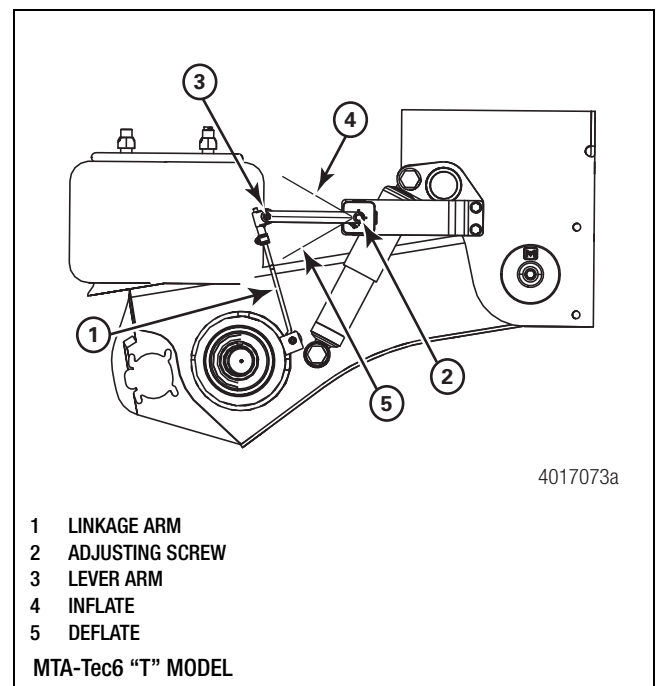
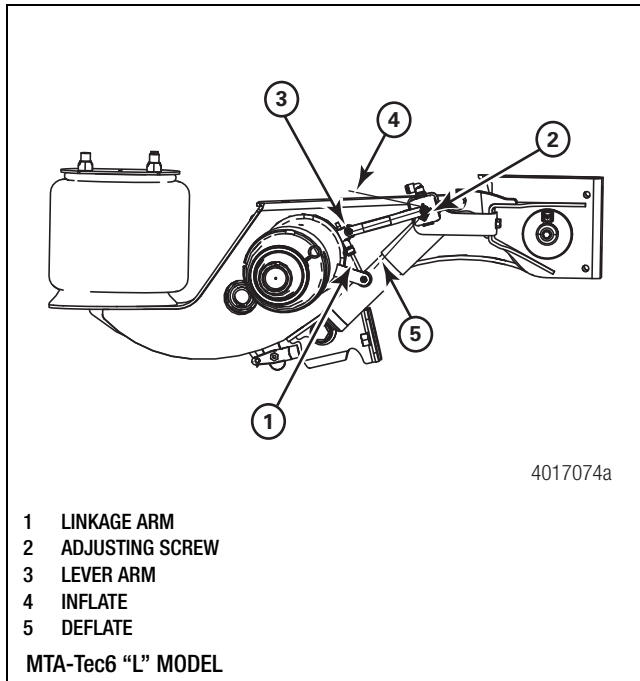

Figure 5.3
Figure 5.4
6. Disconnect the linkage arm at the upper linkage bolt. Replace a bent or damaged linkage. Figure 5.3 and Figure 5.4.
7. Verify that all personnel are clear of the air springs. Make sure the system is pressurized. Inflate or deflate the air springs by raising or lowering the ride height control valve (RHCV) lever arm. To inflate, hold the lever arm in the UP position for at least 15 seconds or until the suspension is at the correct ride height. Refer to Section 3. Figure 5.3.
8. When the suspension is at the correct ride height, set the RHCV lever arm in the neutral position. Figure 5.3.
3. Exhaust all air from the suspension system by disconnecting the linkage arm and holding the level arm down. Refer to items 1 and 3 in Figure 5.3 and Figure 5.4.